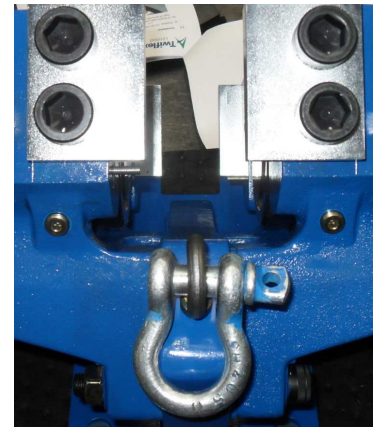

fig 2. M12 Lifting Bolt
- a) When brake supplied with mounting bracket / pedestal (Item 27) use M12 lifting holes to lift the brake (fig 2). It is recommended to use the shackle when using M12 lifting eye.